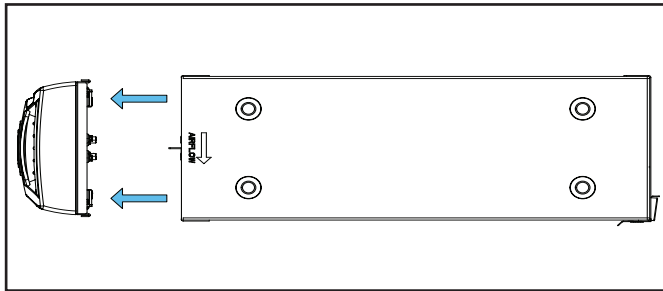

Figure 11 Door Removal
**Step 2:** Remove the Door Assembly from Whole Home Air Cleaner by pulling away from the unit assembly. Place on the flat and clean working surface with interior components facing up. See Figure 11.